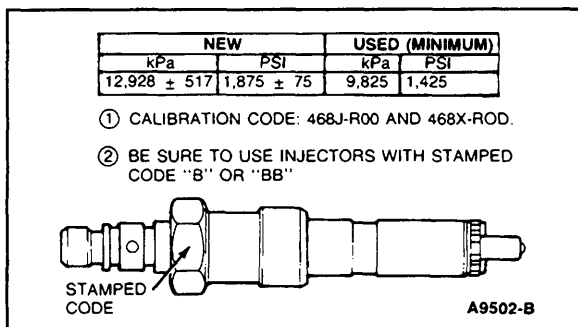

Figure 29 Nozzle Opening Pressure
4. Check nozzle opening pressure. Close pump valve, and operate pump handle in slow even strokes to bring system up to pressure. Record highest pressure reached before nozzle opens. Repeat operation, increasing handle speed if necessary to establish consistent readings. Refer to Fig. 29 for nozzle opening pressures.